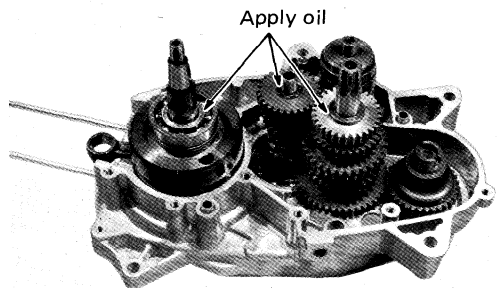

Fig. 5-5-9
4. Before joining the crankcase, apply oil to the connecting rod big end, crankshaft bearings on both sides and other parts needing lubrication with an oiler. (Fig. 5-5-9)